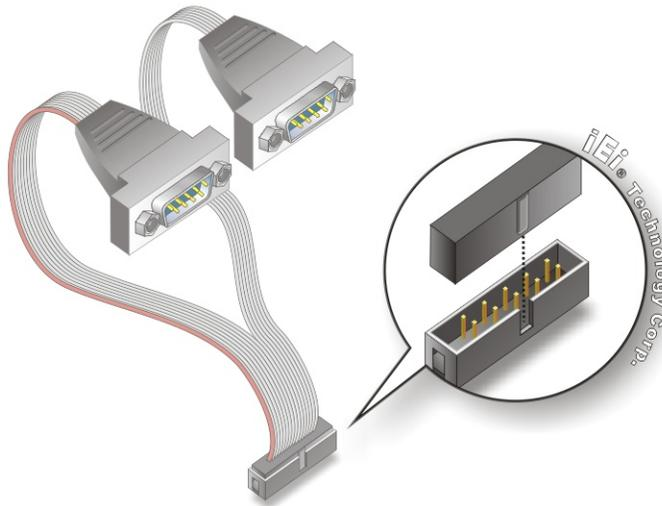

Figure 5-12: Dual RS-232 Cable Installation
Step 2: Insert the cable connectors. Insert one connector into each serial port box headers. See **Figure 5-12**. A key on the front of the cable connectors ensures the connector can only be installed in one direction.